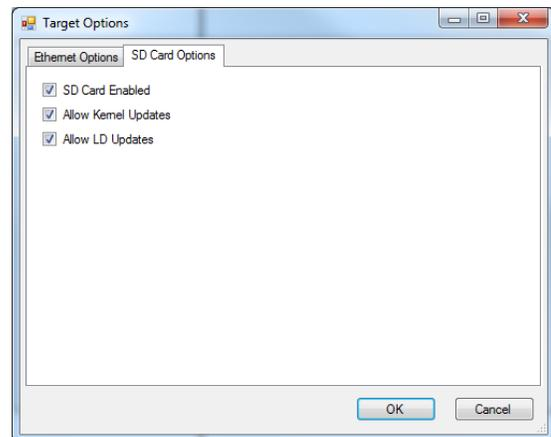

Figure 2-28 - SD Card Options
8. Click the **TARGET OPTIONS** button. The Target Options window will open. There will be two tabs in this window. Click the **SD CARD OPTIONS** tab. See Figure 2-28.